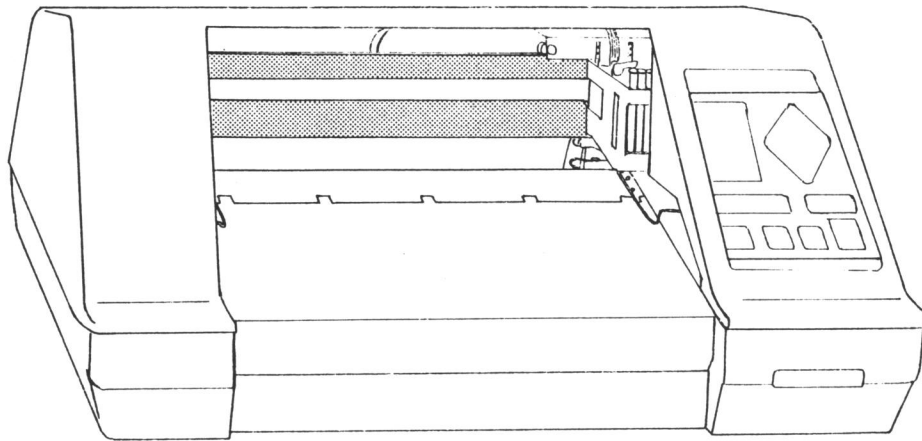

Figure 1-21
- * Wipe both the top and bottom of the pen rail (see Figure 1-21) with a soft cloth about once a month.